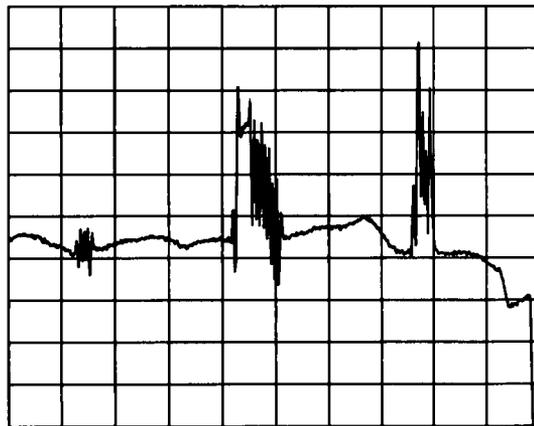

Figure 5-58. Oscilloscope Display with Squegging Present
32. Using the DUT's front panel rotary knob (RPG), vary the ALC level from  $-20$  dBm to  $+20$  dBm. Look for squegging as shown in Figure 5-58. As the power level is increased, you will need to decrease the vertical sensitivity (CHAN A) and adjust the vertical positions on the oscilloscope. If any squegging occurs, examine the ENTRY DISPLAY to determine the requested ALC level. If the ALC level is at or below the maximum specified leveled power, adjust A24R5 (X2C) counter-clockwise to eliminate the squegging. If the ALC level is above maximum leveled power, what you are seeing is probably the RF output going unlevelled and cannot be adjusted out.
**Squegging on the oscilloscope display may appear as shown in Figure 5-58 (power spikes and oscillations) or it may appear as power spikes without the oscillations. In either case the appropriate adjustment should be made to eliminate the squegging.**